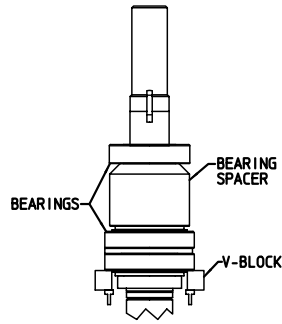

FIGURE 16
13. Use hydraulic press and V blocks to remove bearings and spacer. Refer to **Figure 16**.